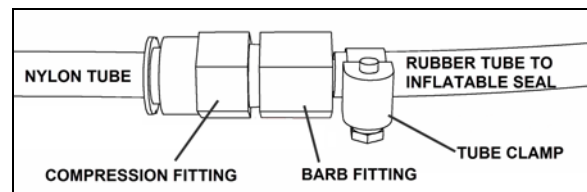

FIGURE 34: TYPICAL INFLATABLE SEAL AIR INLET
2. Unplug the nylon tubing from the compression fitting (Figure 34).
8. Connect the nylon tubing back on the fitting. (Figure 34).